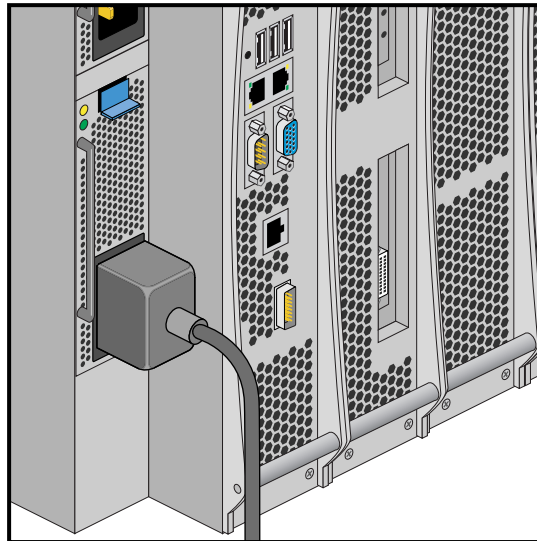

Figure 1-3 IRU Power Supply Cable Location Example
2. For each individual IRU that you want to power on, make sure that the power cables are plugged into all the IRU power supplies correctly, see the example in Figure 1-3. Setting the circuit breakers on the PDUs to the "On" position will apply power to the IRUs and will start the CMCs in the IRUs. Note that the CMC in each IRU stays powered on as long as there is power coming into the unit. Turn off the PDU breaker switch on each of the PDUs that supply voltage to the IRUs power supplies if you want to remove all power from the unit.